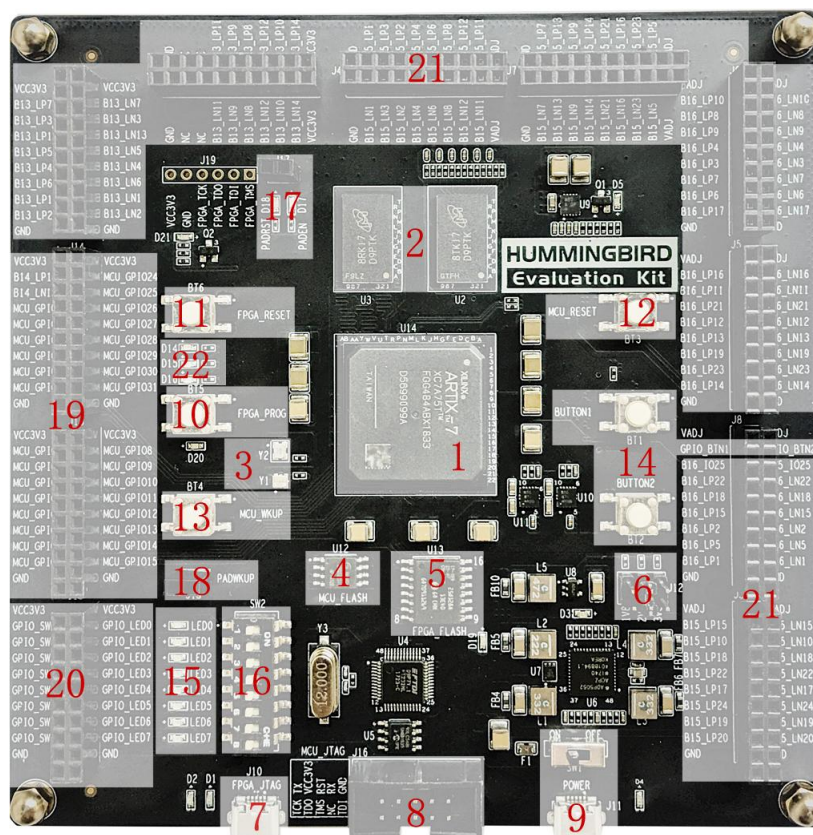
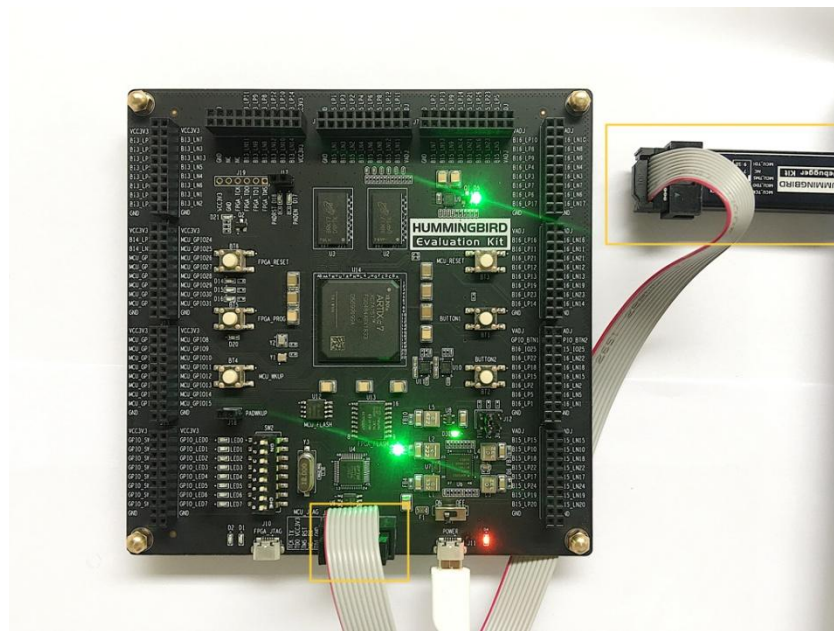

Figure 3-1 Board Hardware Resources
Figure 3-2 Connecting Hummingbird FPGA board and Debugger Kit with PC
Hummingbird Evaluation Kit is an entry-level FPGA board based on Xilinx FPGA, as depicted in Figure 3-1, the hardware resource (marked as with different numbers in above picture) of this board is described as follows.
- There is a separated SPI Nor Flash on the board (as depicted in the Figure 3-1 mark [4]), this SPI Nor Flash will be connected to the SoC’s SPI interface, which support the XiP mode. The RISC-V Core in the FPGA will start to fetch the instructions (with XiP mode) from this Flash after reset.
- The RTC clock is directly from the FPGA board 32.768KHz clock source (as depicted in the Figure 3-1 mark [3]).
- The high-speed clock is from the PLL output (in FPGA project). The original clock source of PLL is from the FPGA board 100MHz clock source (as depicted in the Figure 3-1 mark [3]).
board MCU_RESET button, as depicted in the Figure 3-1 mark [12].
- The SoC have the “PoR Reset” pin, and the FPGA project mapped the pin to the board FPGA_RESET button, as depicted in the Figure 3-1 mark [11].
- The SoC have 32 GPIO pins, and the FPGA project mapped these GPIO pins to the board exposed connectors (with specific MCU_GPIOx names as depicted in the Figure 3-1 mark [19]).
- The SoC have JTAG pins and UART0 pins (pin-mux to GPIO_16 and GPIO_17 of the SoC), and the FPGA project mapped these pins to the board MCU_JTAG interface socket, as depicted in the Figure 3-1 mark [8]. The “Hummingbird Debugger Kit” can be connected to this socket, as depicted in Figure 3-2, and then be used to debug the RISC-V core (burned inside FPGA).
As described in Section 3.2.1, one of the purposes of “Hummingbird Evaluation Kit” is to be as the regular FPGA board. To achieve this goal, there are independent switches and LED lights, as depicted in the Figure 3-1 mark [14] [15] [16]. User can utilize these on-board resource to control the SoC, for examples as below:
- The switches (as depicted in the Figure 3-1 mark [16]) are independent there, without connecting to any others. User can use the jumper wire to connect it to MCU_GPIOx pins, then to use the switch to control the MCU_GPIO input value.
- The LED lights (as depicted in the Figure 3-1 mark [15]) are independent there, without connecting to any others. User can use the jumper wire to connect it to MCU_GPIOx pins, then to use the MCU_GPIO output value to control the LED lights.
- The buttons (as depicted in the Figure 3-1 mark [14]) are independent there, without connecting to any others. User can use the jumper wire to connect it to MCU_GPIOx pins, then to use the button to control the MCU_GPIO input value.
As depicted in the Figure 3-1 mark [5], the FPGA board has the SPI Flash to store FPGA's Bitstream (MCS format). If the users want to re-program the FPGA with the Bitstream file, Nuclei have provided the completed FPGA project (for each IP product), and then use Xilinx Vivado to generate the Bitstream file (MCS format).
After generating the Bitstream file (MCS format), then we can program it into the FPGA's SPI Flash (as depicted in the Figure 3-1 mark [5]).
in the Figure 3-1 mark [10]), it will trigger the FPGA to load the Bitstream from the SPI Flash